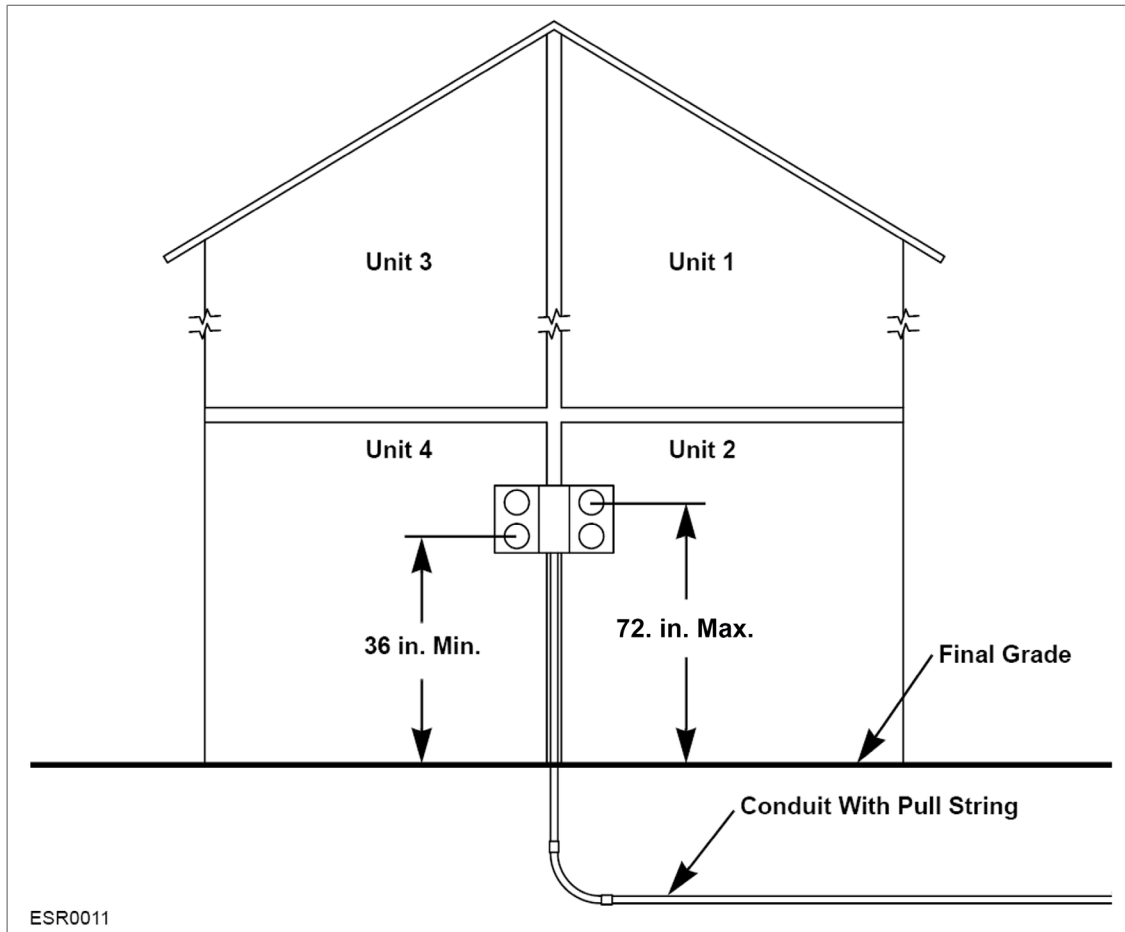

Figure 60: Underground Service for a Multiple-Family Dwelling
Figure 60 shows a typical grouping.
- The center of the lowest meter in a bank of meters must be at least 36 inches from final grade. The highest meter in a bank of meters must be no more than 72 inches from the final grade. **Figure 60** above shows these distances.